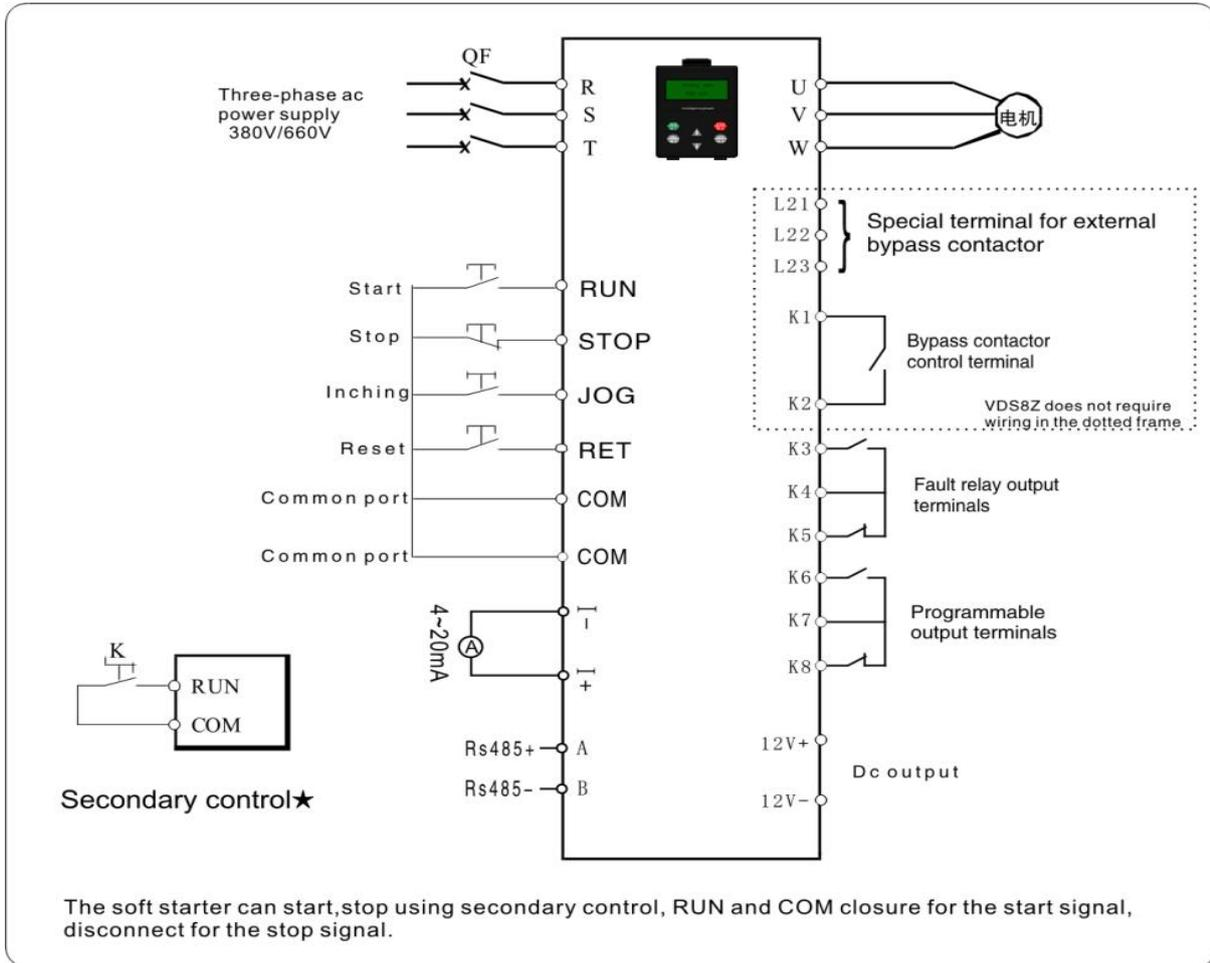
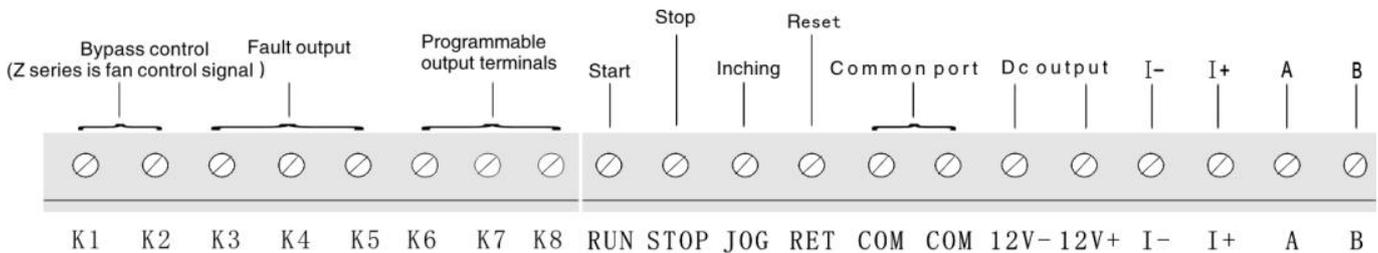

图5-1
图5-2
Fig. 5-1 and Fig. 5-2 are all external terminals of QDS1-0 series soft starters for users. Detailed functions are shown in Table 5-1 "Basic wiring diagram description".
★ ①There are two connection modes for external control start-stop signal. When using two-wire control, the STOP terminal is not connected; see basic wiring figure 5-1 for details.
②The setting of programmable output can be seen in detail: the relay function in the above table.